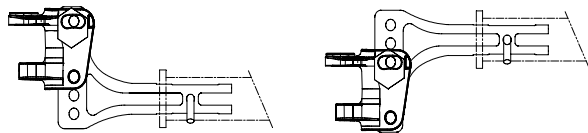

Fig. 2
4. Attach hitch ball to the ballmount (G). REESE standard height hitch balls with 1-1/4" shanks are supplied with lockwashers and nuts (If you must use a 1" shank ball, use bushing 58109 (B) to reduce hole size in ballmount (G) to 1"). Always use a lockwasher and place washer next to nut. Unless otherwise specified by ball manufacturer torque ball nut to 450 ft/lbs for 1-1/4" nut, 250 ft/lbs for 1" nut.
5. Some installations may require a longer hitch bar (D). Extended bumper guards, pickup truck "caps", or rear mounted spare tires can limit turn angles unless a longer bar is used. Individual hitch bars (D) are available in various sizes.
6. Insert the hitch bar (D) into the hitch box and install a pull pin. Place ballmount (G) onto hitch bar and move up or down for proper height. Hitch bar may be used in either the up or down position (see Fig. 2).